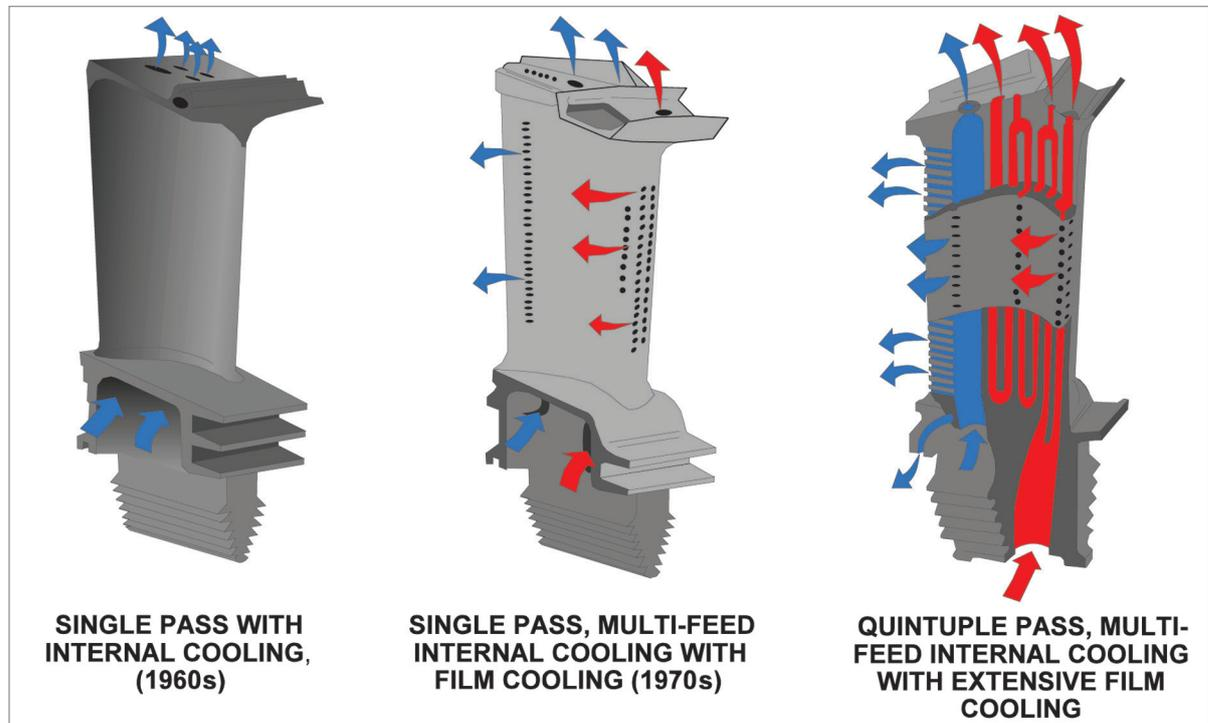

Figure 27.2 The development of turbine blade cooling
*Figure 27.2* shows the development of turbine blade cooling since its inception. Originally it was considered sufficient to pass low pressure compressor air through the blade (single pass internal cooling) and in so doing retain its temperature below the critical level at which excessive creep would occur.